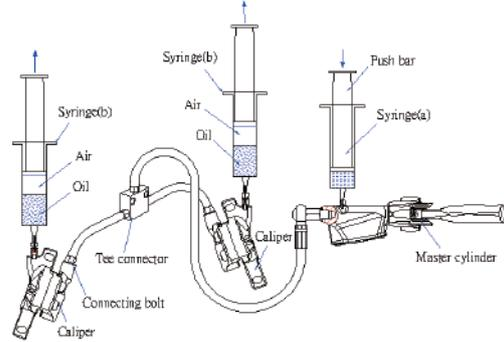

FIG.6-3
- 6-3. Pump the braking oil in syringe (a) of master cylinder into oil reservoir with less oil left. At this time, braking oil will flow to caliper through hose and then through caliper into syringe (b). Afterwards, Pumping the brake oil to the syringe (b) which located at the Caliper's both side back to the syringe (a) of the Master Cylinder. (as shown in Fig. 6-3) and press handle several times. Repeat the above procedure of braking oil injection 3-4 times. Finally pump the braking oil back to syringe (a) of master cylinder. Repeat the steps to expel the entrapped air. Caution: make sure not to pump the air in any syringe into the disc braking system.